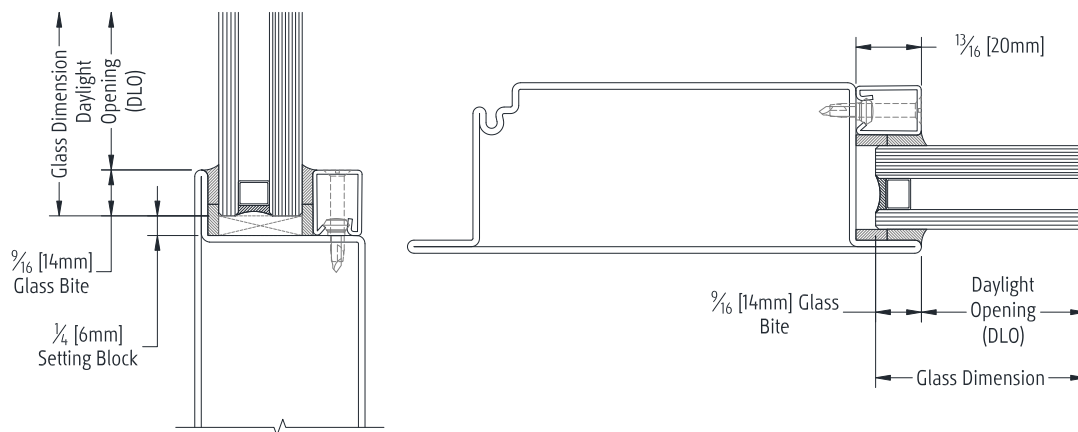

Figure 17 - Glass Bite and Glass Dimensions
- 6.5 Installing Glass into Frames (Figure 17).